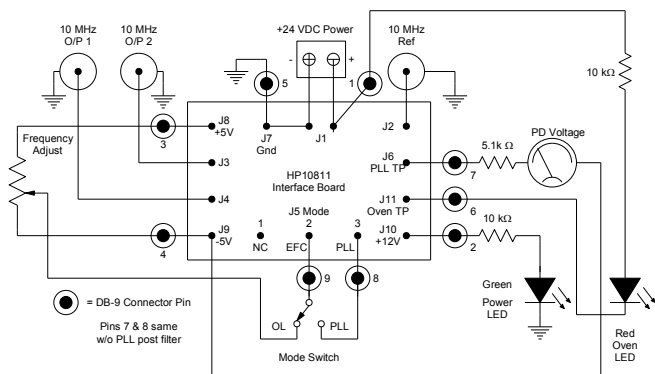
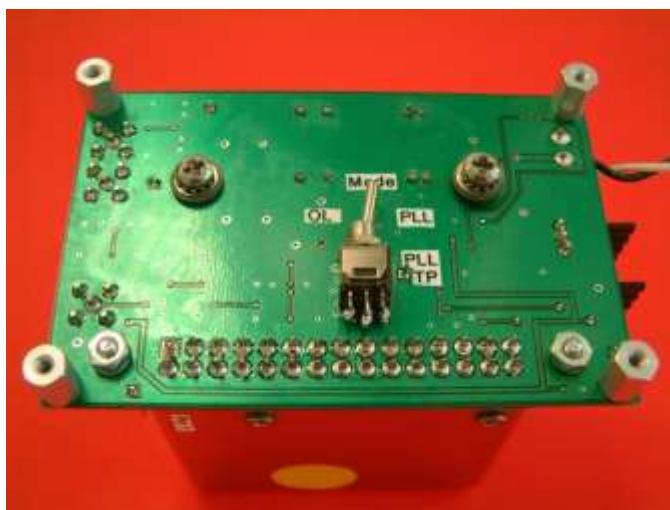

Figure 13. External Connections
Figure 14. Mode Switch
The OCVCXO and PLL board can be used in either a stand-alone configuration or housed in an instrument case. The external connections for the latter are shown in Figure 13. These allow the board be connected to external controls and indicators for use in an instrument box. The unit can to be operated either open loop as a voltage tuned oscillator or closed loop with the oscillator phase locked to an external reference. The open loop (OL) tuning voltage can be read from a digital dial on the tuning potentiometer, and the phase detector output observed on an analog panel meter. In the stand-alone configuration, an on-board tuning potentiometer is provided, and an OL/PLL mode switch can be installed on the bottom of the board as shown in Figure 14.